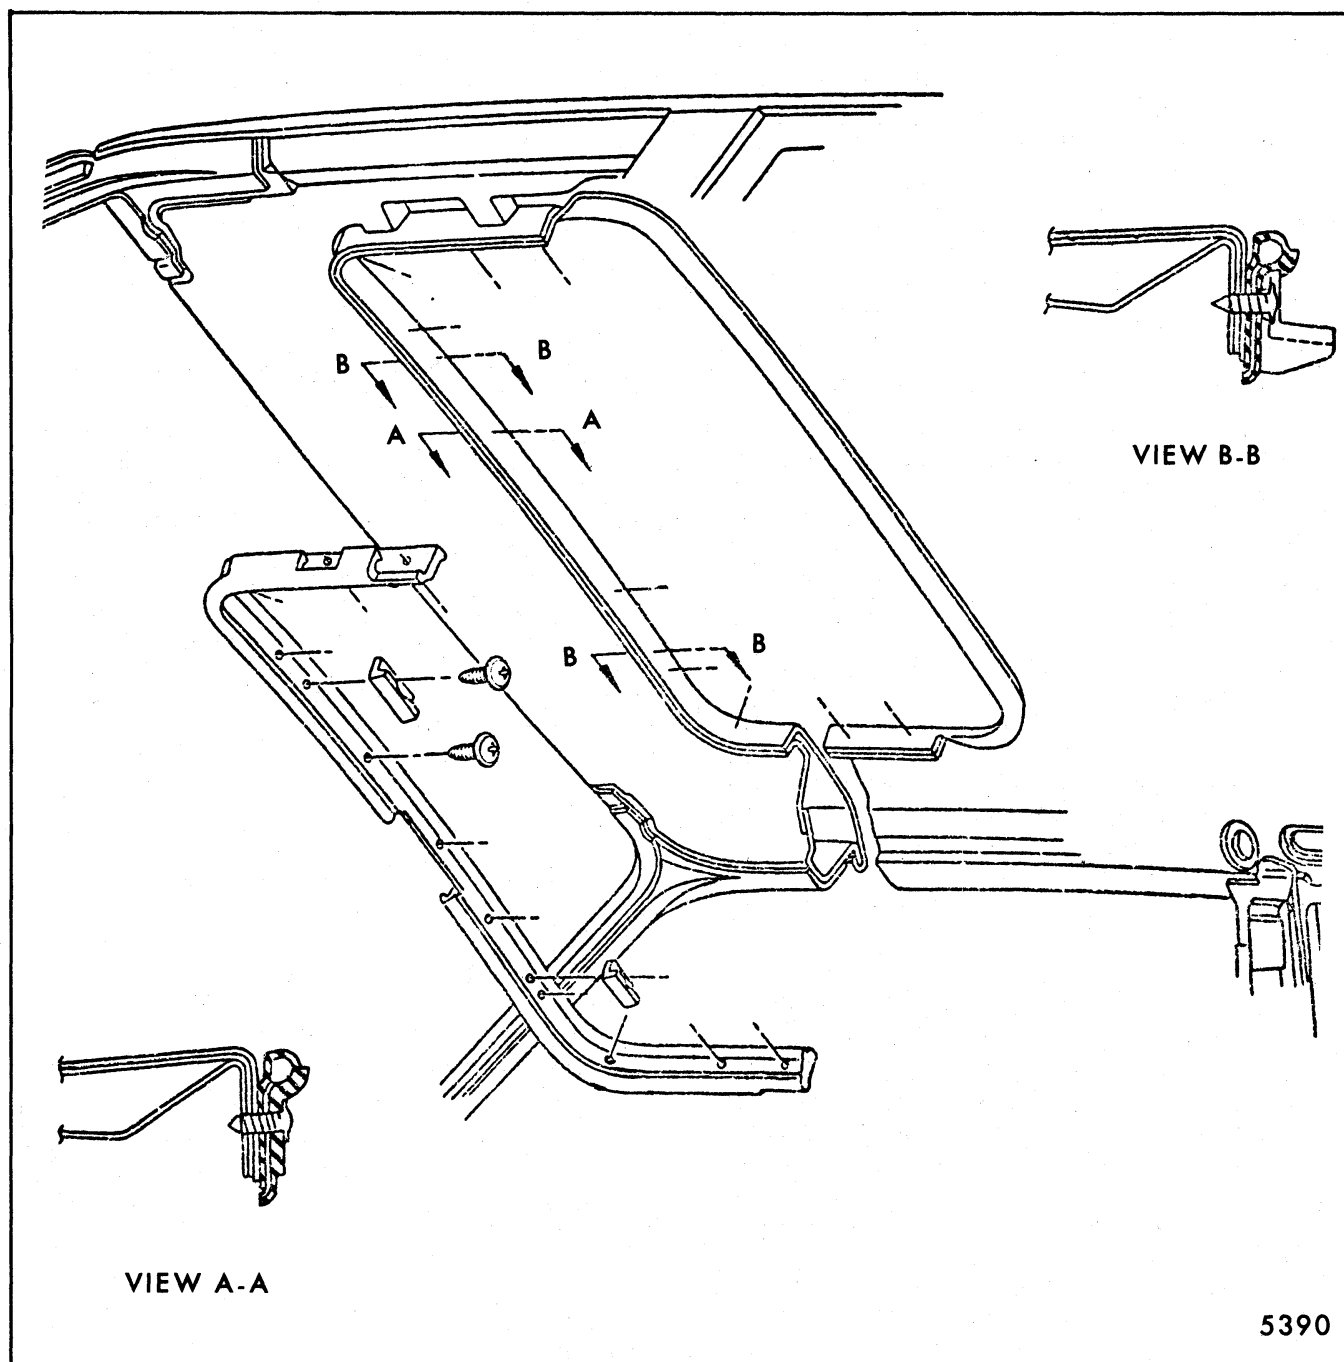

Fig. 8-80-Sun Roof Opening Weatherstrip
The sun roof opening weatherstrip is fabricated of flock-coated rubber and is retained at the front and sides of the roof opening by attaching screws (Fig. 8-80).
2. Remove attaching screws holding weatherstrip and supports to roof panel flange, and remove weatherstrip and supports (Fig. 8-80).